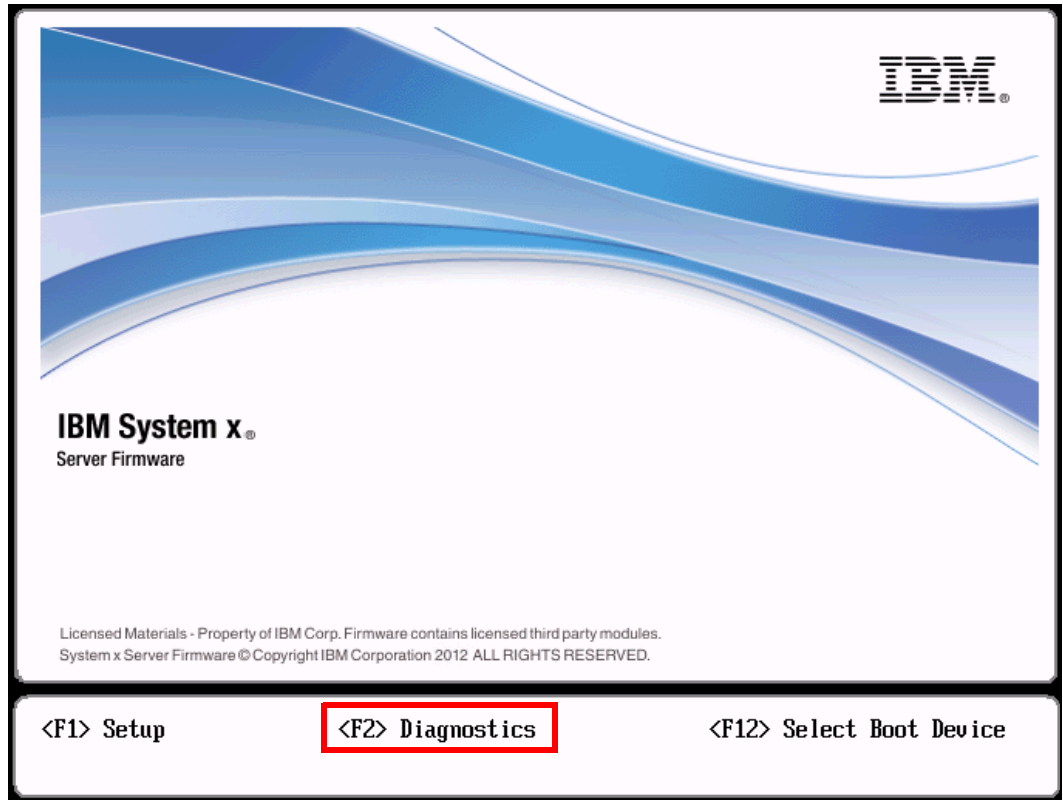

Figure 2-20 F2 option to enter diagnostics
1. Power on the system and press F2 when the UEFI window appears, as shown in Figure 2-20.